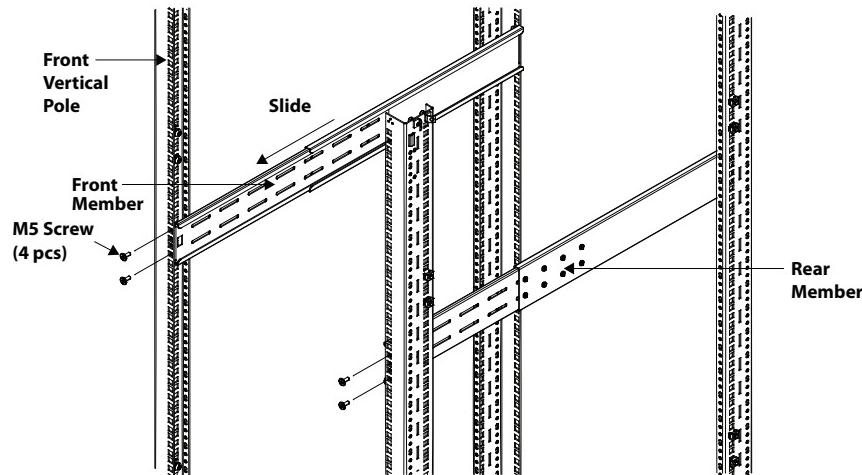

Figure 10: Installing front member of each bracket assembly
- Extend the bracket assembly by sliding the front member forward until it touches the rack's front vertical rails (adjustable length: 457–813 mm/18–32 in.). Use two M5 screws to fix each front member onto the front vertical rails through the installation holes. Make sure that bracket assemblies are at the same mounting height on all four rack rails, as shown in Figure 10.